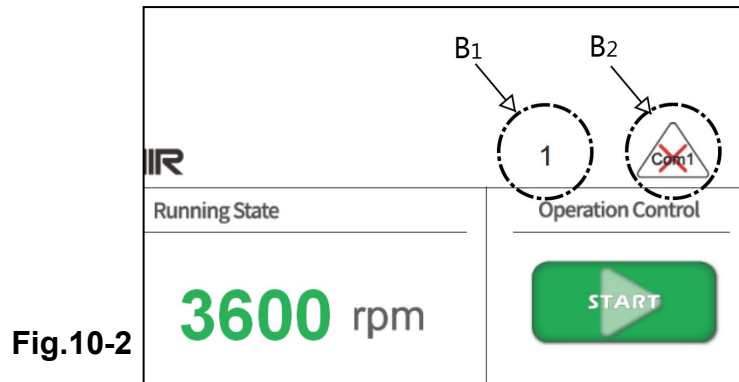

Fig.10-2
5.1.2 Alarm information display area B (Fig. 10-2)